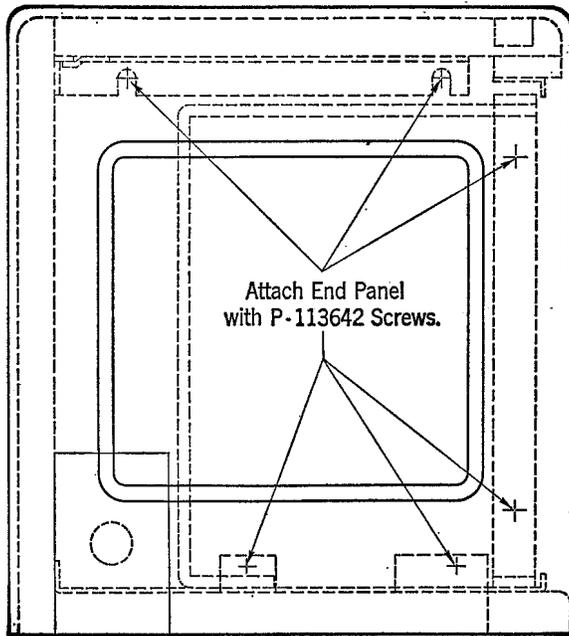

Fig. 2 — Method of Attaching End Panels (Single-sided Key Boxes)
7.01 The wooden key boxes are assembled as shown in Fig. 2, 3, 4, and 5.